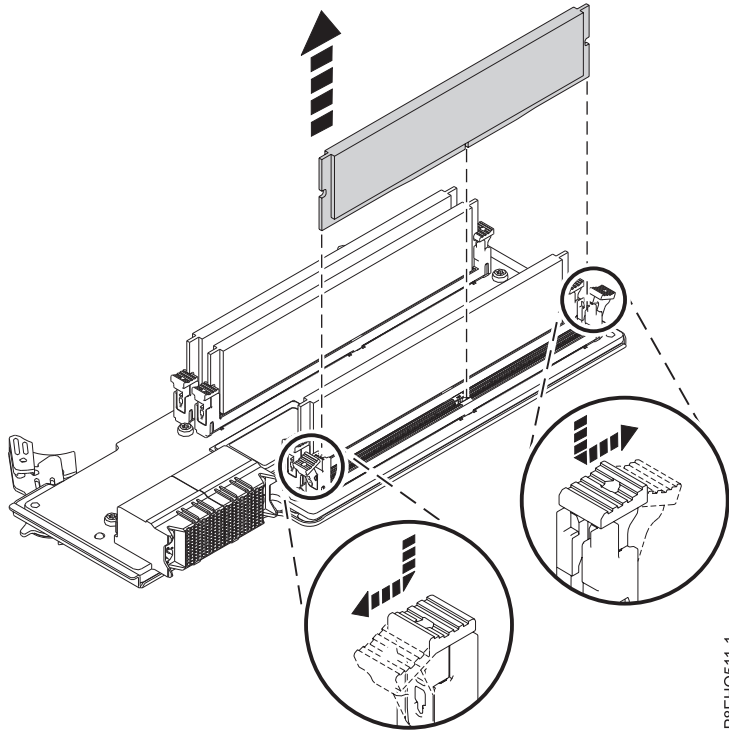

Figure 89. Removing memory DIMM from a slot on the riser
- a. Unlock the DIMM by pushing the locking tabs away from the DIMM, in the direction shown in Figure 89 on page 73. The lever action of opening the tabs pushes the memory DIMM out of the slot.